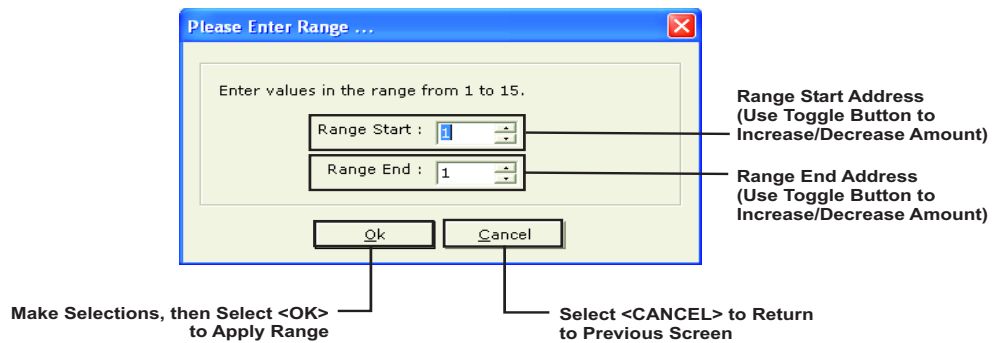

Figure 2-35. Peripheral-Devices Address-Range Selection
1. Select either the **<Add RDCM(s)>** or **<Add ATM(s)>**. Figure 2-35 displays.